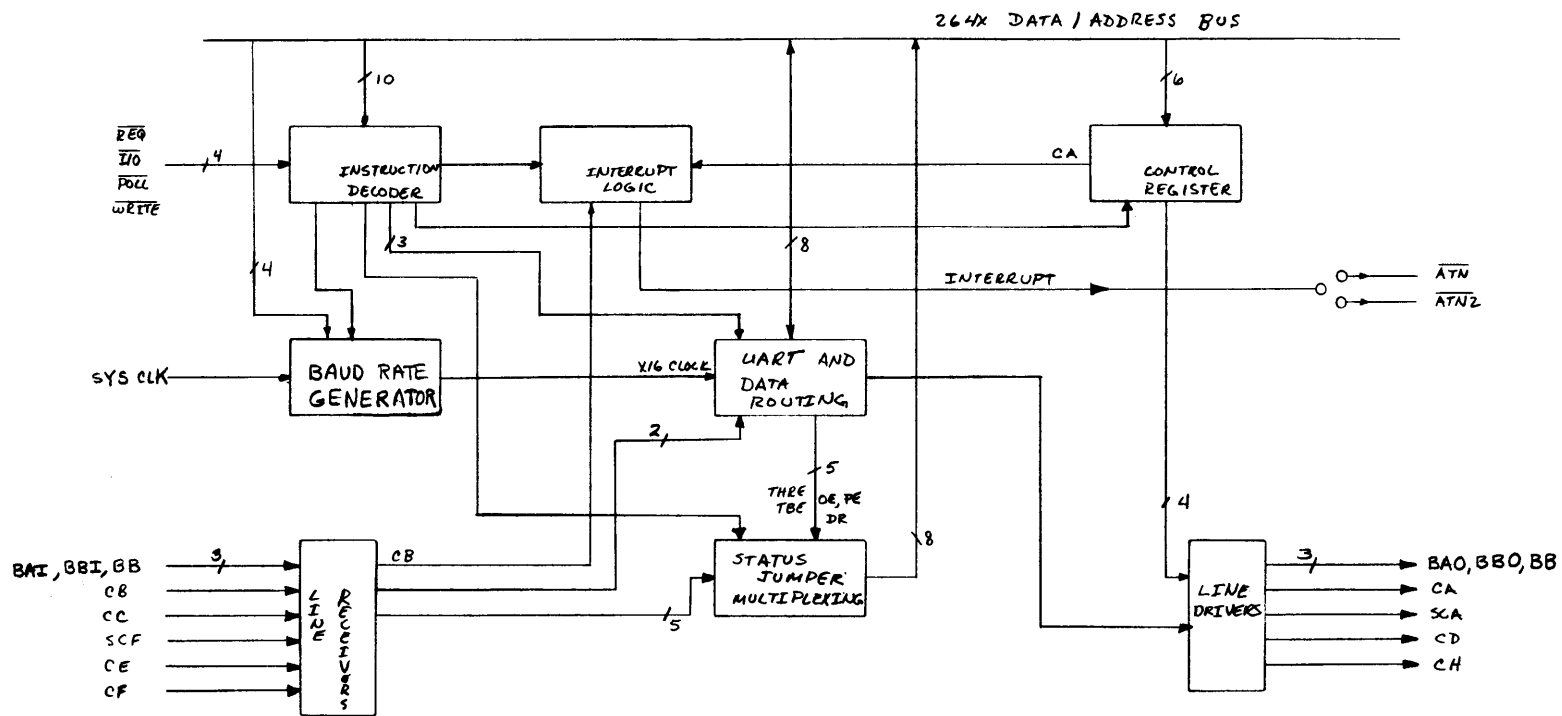
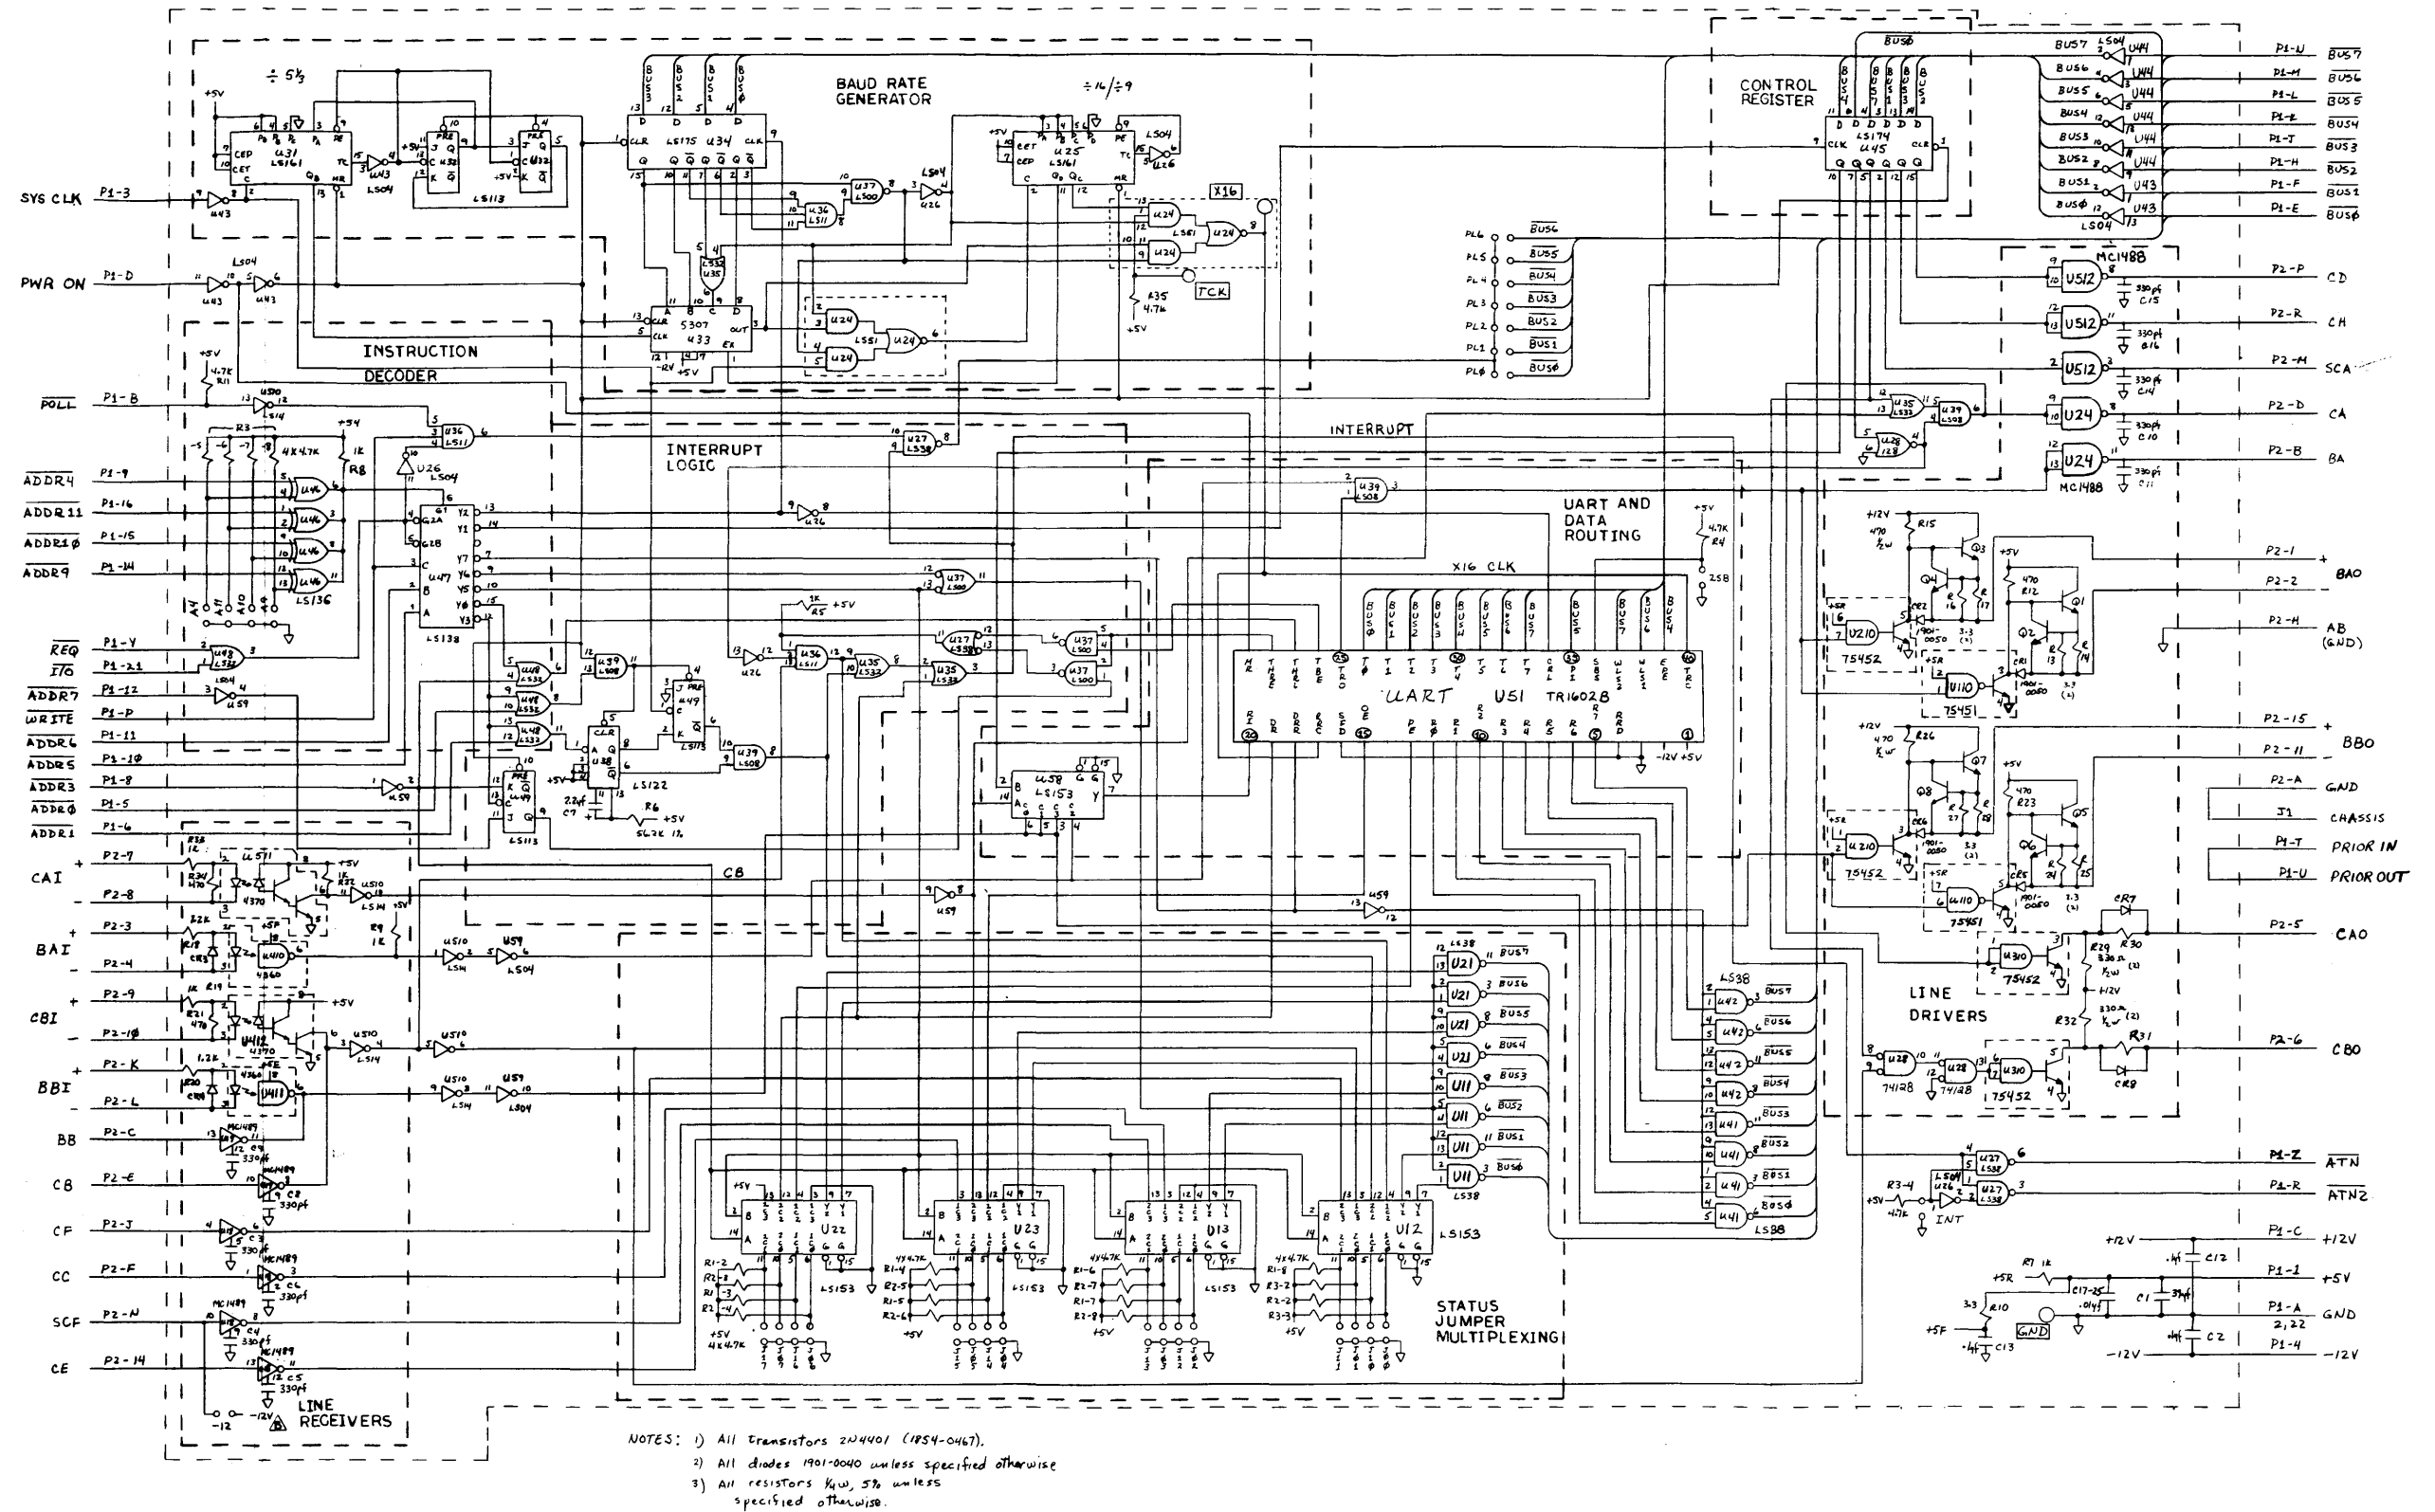
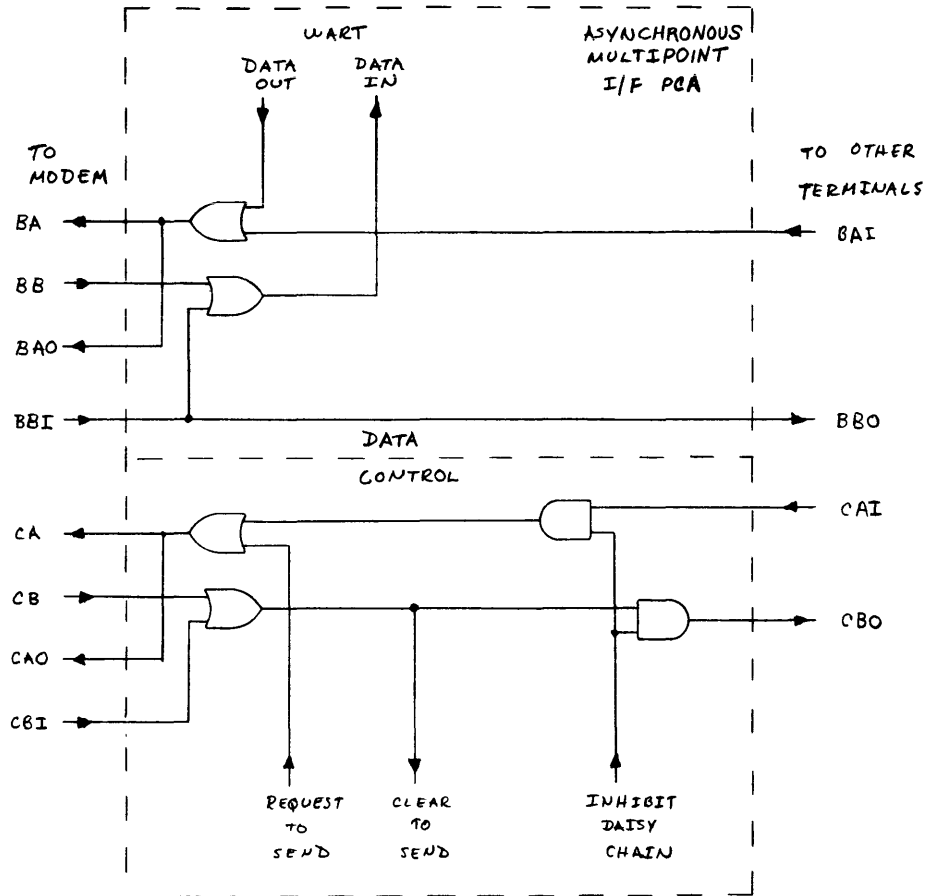
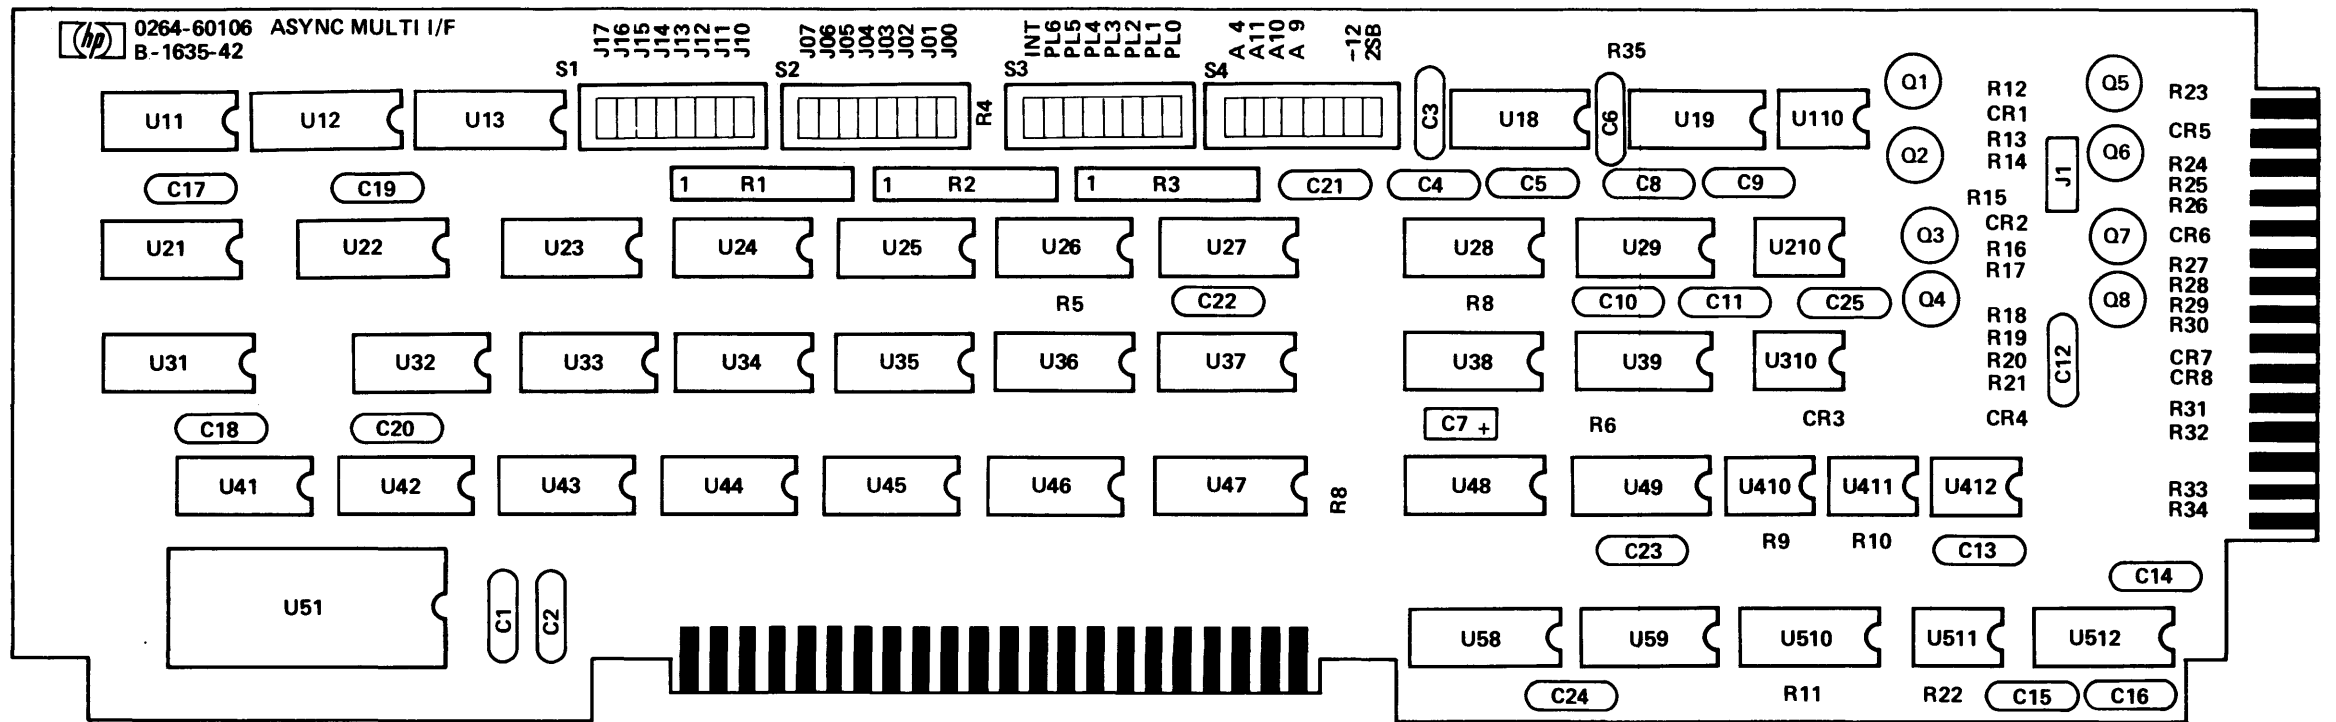

Figure 1
Figure 2
Figure 3
Figure 4
- 3.0 FUNCTIONAL DESCRIPTION. Refer to the block diagram (figure 1), schematic diagram (figure 2), daisy-chain logical connection (figure 3), component location diagram (figure 4), and parts list (5061-2403, 5061-2409, 02640-60106, 02640-60132, 02640-60133, 02640-60134, 02640-60140, and 02645-60004) located in the appendix.
The purpose of the Asynchronous Multipoint Interface PCA is to transmit and receive start-stop serial data and provide modem control and status lines. Data character format is described in EIA RS404. The line interface is compatible with RS232C and the terminal's daisy-chain circuitry. Figure 3 illustrates the daisy-chain connection when more than one terminal is sharing an RS232C line. BA, BB, CA, and CB are RS232C signals; all others are daisy-chain signals.